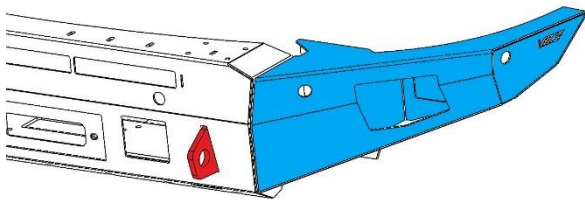
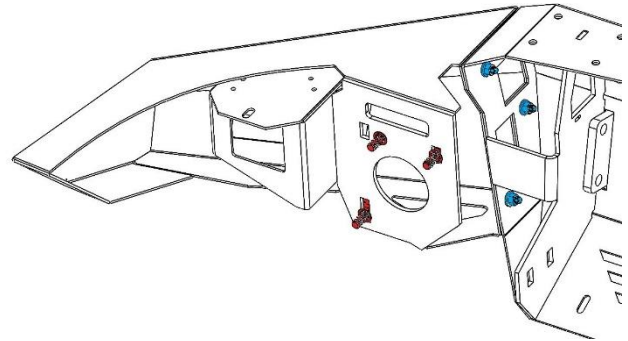

Figure 1
Figure 2
12. Install the bumper wings highlighted blue in **Figure 1** onto the center section using 3x 3/8 carriage bolts, washers, and nuts per side. See bolts and nuts highlighted blue in **Figure 2**. Align the inside of the bumper edges so they sit flush and tighten the fasteners to about 30ft-lbs.
13. Install the lugs shown in Figure 1 using the 1/2" Gold Grad 8 carriage bolt, 2 per side, with the nut facing the center of the bumper. **Torque all 4 of these carriage bolts to 65 ft-lbs**